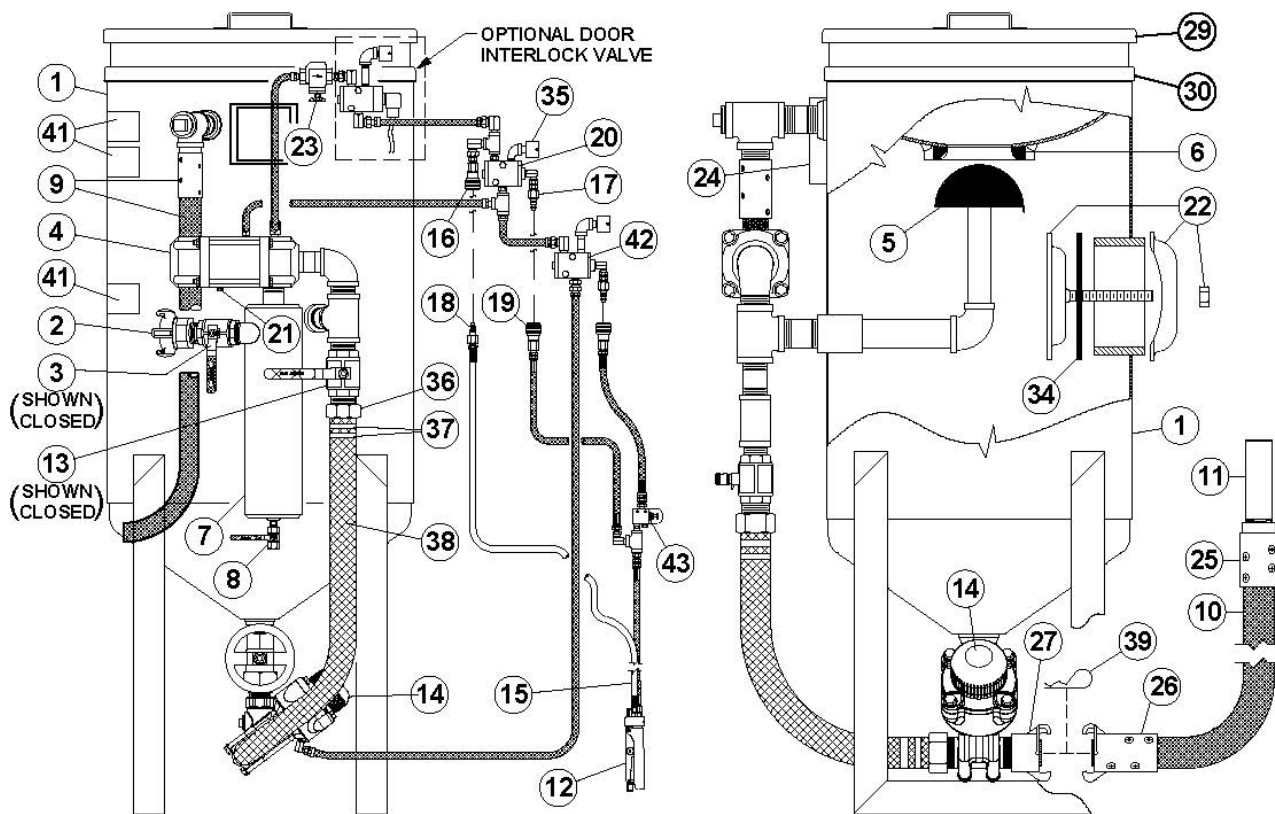

Figure 8.4(b) – Thompson/Combo Abrasive Blaster with pneumatic blast controls
- 8.11. **Thompson Valve Blaster Blowdown Ball Valve:** The blowdown ball valve (#4) is used to depressurize the Thompson Valve abrasive blaster pressure vessel (#1). See Figure 8.4(a). The blowdown air flow can carry abrasive from inside the pressure vessel which can wear the blowdown ball valve (#4) and piping. This wear will cause the blowdown ball valve (#4) to be difficult to open and/or close, and/or result in the inability to close properly (air leaks), and/or wear of the attaching pipe fittings. If and when any of these conditions develop they will be noticeable during daily blowdown operation. When any malfunction is detected the blowdown ball valve (#4) and attaching fittings should be replaced.